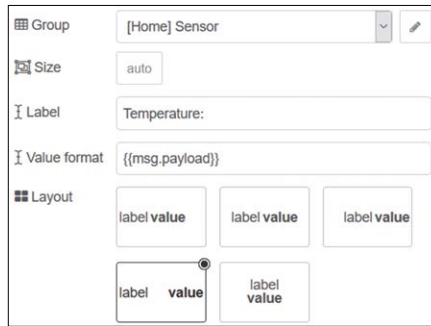

Figure 13.11 Configure the text node
- Create a Dashboard **text** node and configure it as in Figure 13.11